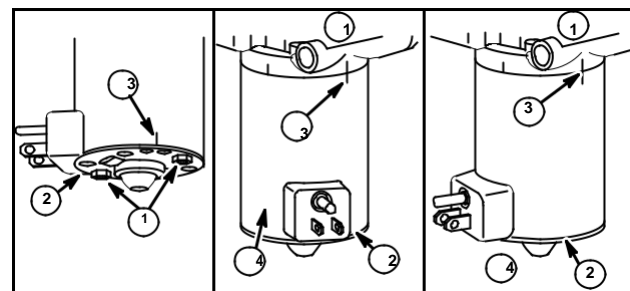

Fig. 49
NOTE: End head (1), end cap (2), and housing (4) must be placed in the same position as when removed. Assemble matching marks (3) or interference may result, Fig. 49.
6. Align end cap and end head match marks correctly, Fig. 49, and tighten screws.